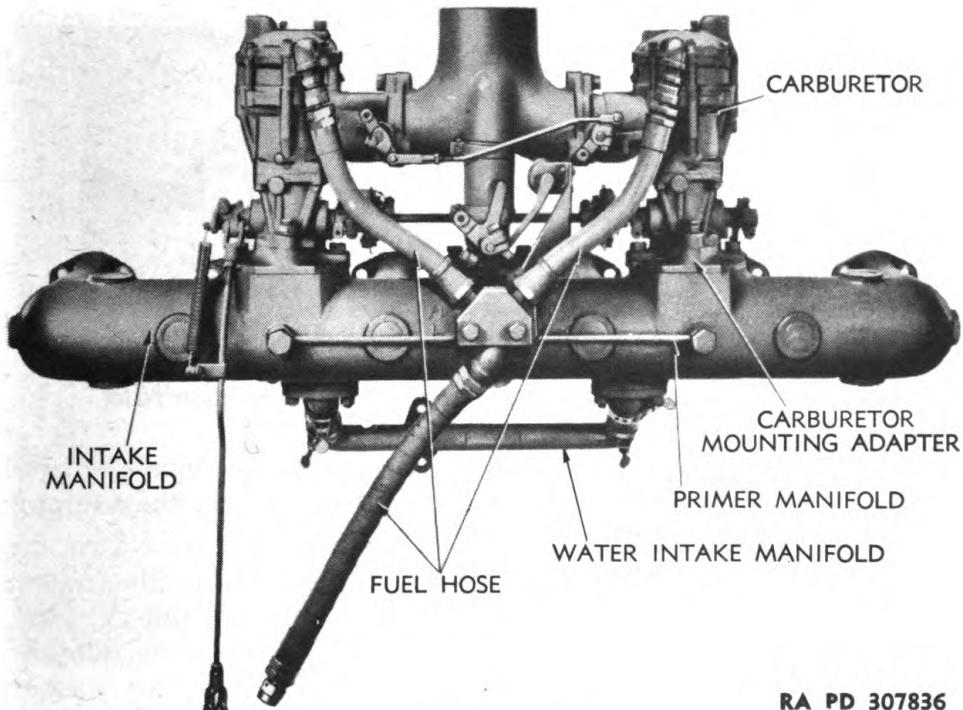
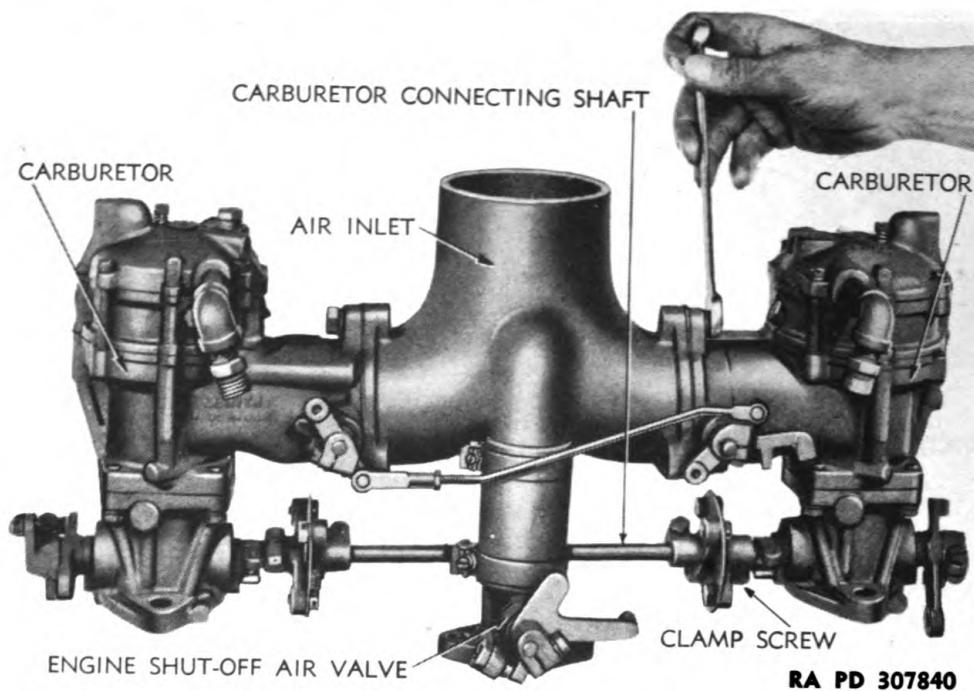

Figure 31 — Intake Manifold and Carburetors Assembled
Figure 35 — Disconnecting Carburetor From Air Inlet
b. Disassemble Intake Manifold Assembly. Remove two cap screws and lock washers connecting engine shut-off air valve assembly to intake manifold (fig. 32). Remove four nuts from the studs connecting the two carburetors to the carburetor mounting adapters on manifold (fig. 31). Remove the two cap screws and washers attaching Y-fitting for fuel hose to bracket on intake manifold (fig. 32). Lift off carburetor and carburetor air inlet assembly with air valve assembly, and governor throttle control rod attached (fig. 35) from manifold. Remove nuts from the four studs attaching water intake manifold to manifold (fig. 33) and remove the manifold. Remove two bolts (fig. 34) and remove primer manifold and washers. Loosen screw in choke valve lever, remove three cap screws and lock washers connecting carburetor to air inlet (fig. 35), and loosen clamp screw on carburetor connecting shaft. Remove carburetor by pulling it away from air inlet and carburetor connecting shaft. Use same procedure to remove second carburetor from air inlet. Remove air valve assembly (fig. 35), by loosening lower clamp on hose connecting it to carburetor air inlet and pulling assembly from hose.